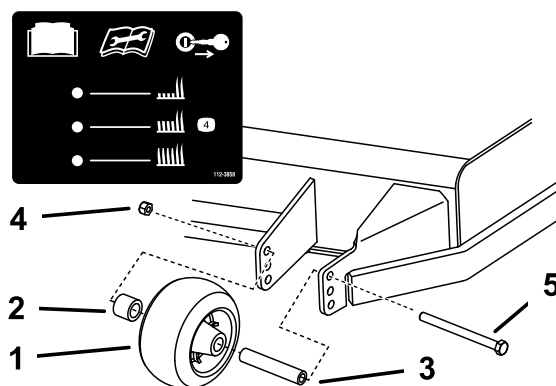

Figure 31
3. Adjust the anti-scalp rollers as shown in Figure 31.